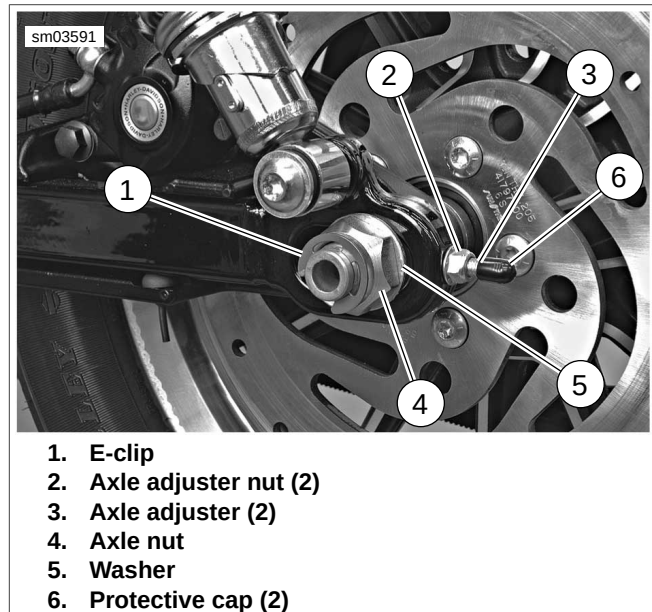
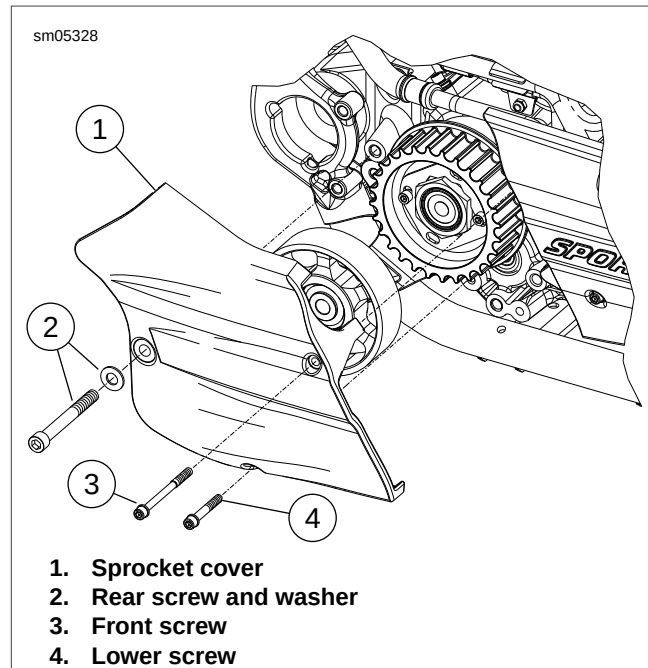

Figure 5-43. Secondary Drive Belt Adjustment (typical; XL model shown)
Figure 5-45. Sprocket Cover: XR Models
4. See Figure 5-43. Remove and discard e-clip (1) and loosen rear axle nut (4). Decrease belt tension by turning the axle adjuster nut (2) on each side of rear fork an equal number of turns counterclockwise.
2. See Figure 5-45. Remove screws (2, 3, 4). Remove sprocket cover (1).
3. See Figure 5-43. Remove and discard e-clip (1) and loosen rear axle nut (4). Decrease belt tension by turning the axle
7. Install exhaust pipe clamp bracket (4), washer (5) and screw (6). Tighten to 30-33 ft-lbs (40.7-44.8 Nm). Now tighten screws (2, 3) to 80-120 **in-lbs** (9.0-13.6 Nm).
11. See Figure 5-43. Tighten rear axle nut (4) to 95-105 ft-lbs (129-142 Nm). Install **new** e-clip (1).
4. See Figure 5-45. Install sprocket cover (1). Note that longer screw goes in top hole, short screw in bottom hole.
- a. Tighten screw (2) to 30-33 ft-lbs (40.7-44.7 Nm)
7. See Figure 5-43. Tighten rear axle nut (4) to 95-105 ft-lbs (129-142 Nm). Install **new** e-clip (1).